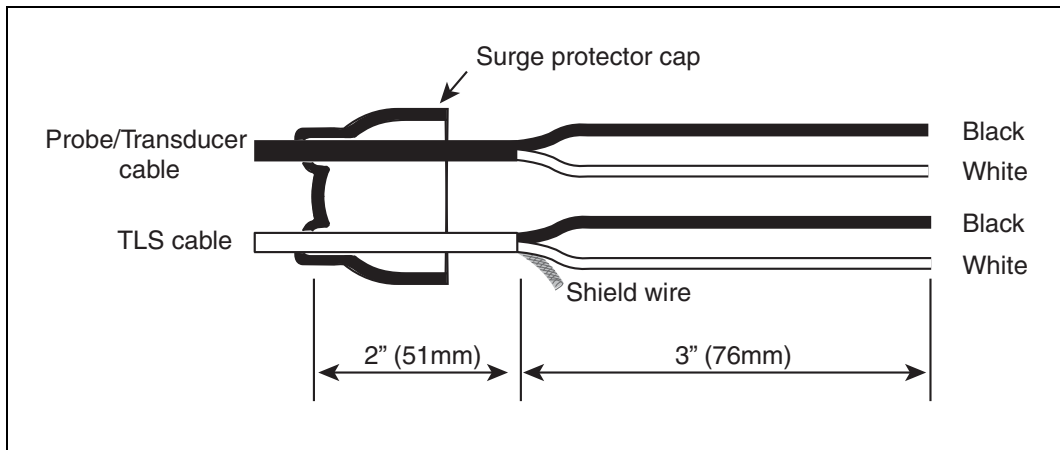

Figure 12. Splice Length Dimensions
2. Cut the soft vinyl epoxy enclosure end cap entrance holes to accommodate each cable diameter. Keep the hole sizes to a minimum. Insert about 5 inches (127mm) of each cable through the openings [Figure 12]. Remove 3 inches (76mm) of the outer jacket from each cable. Trim the insulation from the conductors.